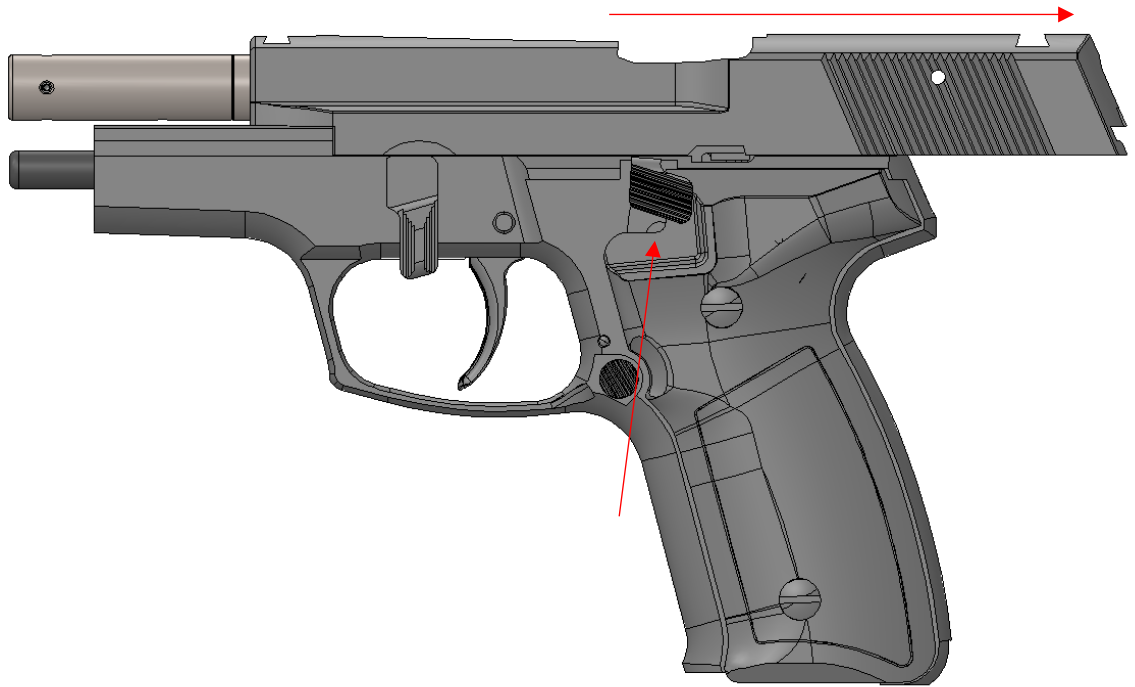

Figure 6: Installation of Slide onto Frame (2 of 3)
- While firmly holding the pistol with one hand, pull the slide back to its fully-rearward position. While the slide is in the rear position, lift the slide release lever with the thumb of the hand holding the grip. The slide will now remain in rear position (Figure 6).